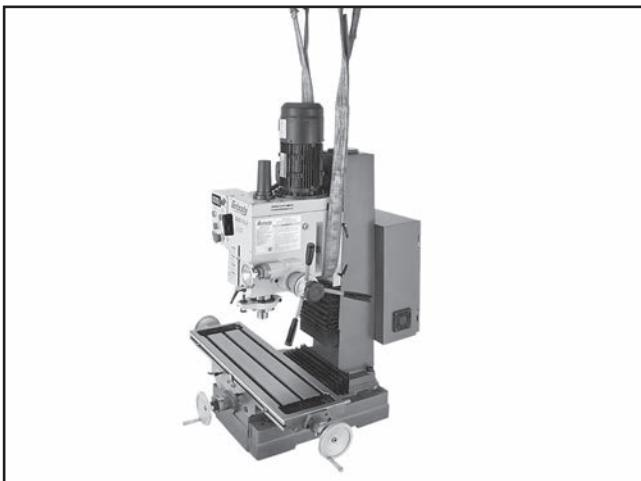

Figure 7. Example of recommended lifting sling position.
4. Position a lifting sling under the headstock, as shown in **Figure 7**. Connect sling ends to a forklift, then lift and place machine on workbench.